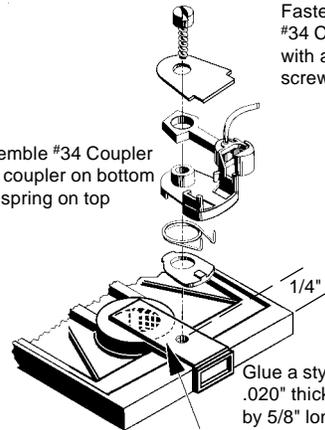

Fig.2
4. Drill and tap a 2-56 threaded hole 1/4" from end on centerline, as shown in Fig.2, into shim and tender floor.
Use existing retaining pin to secure assembled #34 Coupler. Coupler should be assembled with spring on top, coupler on bottom, as illustrated in Fig.2 above